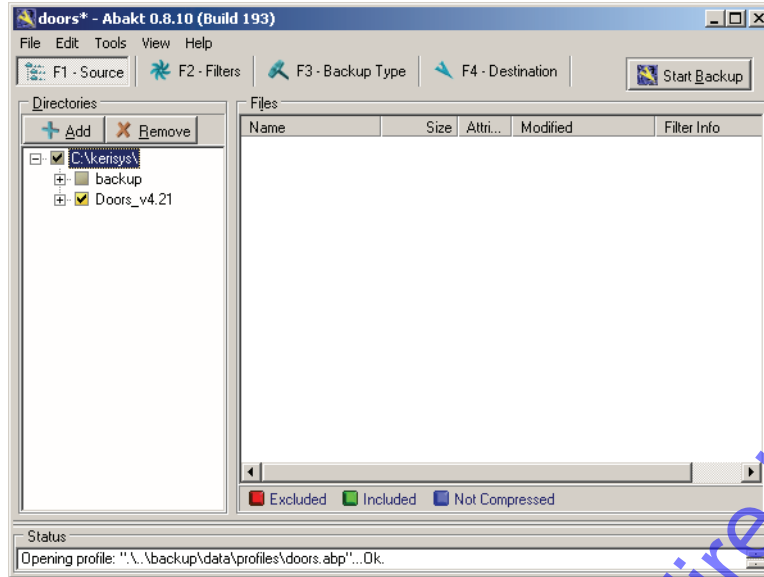

Figure 5-50: Abakt Window
5. *Doors* will close and the backup program will open (see Figure 5-50 on page 49 of this section).
- From the Abakt window (see Figure 5-50 on page 49 of this section), click on the  button to begin the backup process. All selected files will be backed up into a single compressed ZIP file and saved to the destination directory.